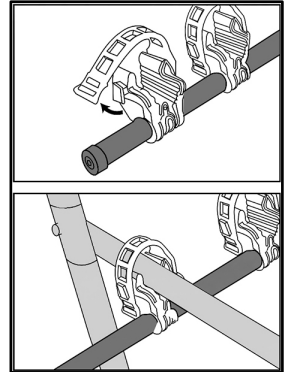

Fig. 9
2. Unclip the cradle straps by pulling each one down to free them from the anchor tab (Fig. 9).